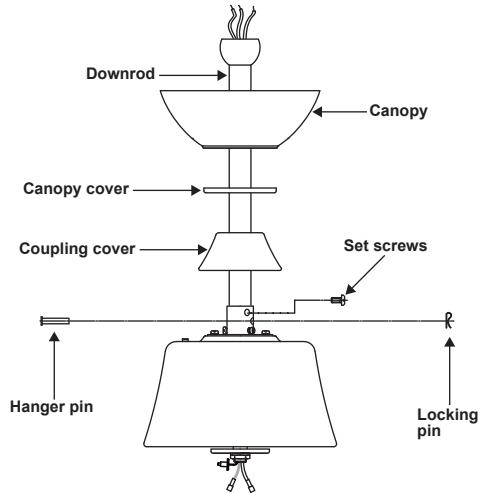

Figure 6
Step 4. Route wires exiting from the top of the fan motor through the coupling cover, canopy cover and canopy, then through the ball/ downrod. (Fig. 6)
Step 5. Align the holes at the bottom of the downrod with the holes in the collar on top of the motor housing (Fig.6). Carefully insert the hanger pin through the holes in the collar and downrod. Be careful not to jam the pin against the wiring inside the downrod. Insert the locking pin through the hole near the end of the hanger pin until it snaps into its locked position, as noted in the circle inset of Fig. 6.
Step 6. Tighten two set screws on top of the fan motor firmly. (Fig. 6)